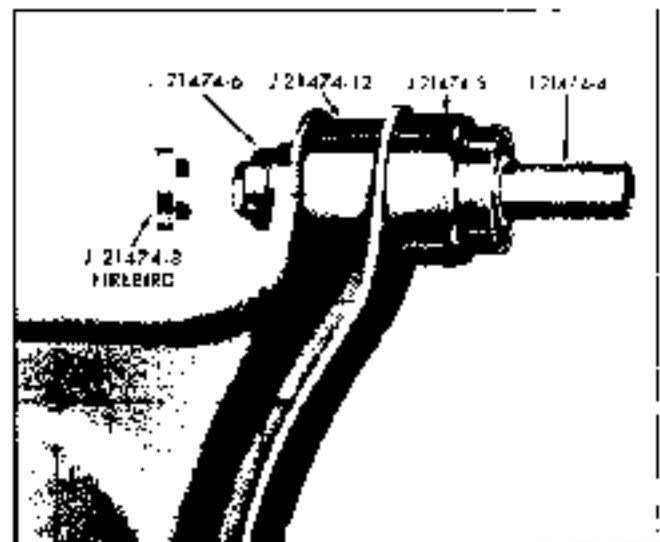

Fig. 3-18 Removing Lower Control Arm Front Bushing (Firebird, Tempest) and Rear Bushing (Pontiac)
2. Remove bushing by arranging tools as shown in Fig. 3-18.